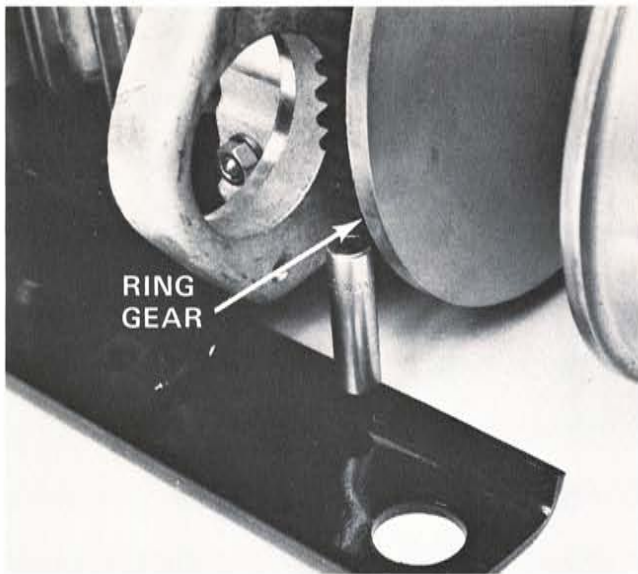

Fig 2
3. Remove T.C. bolt. To secure the crankshaft from turning, insert a socket between the ring gear and the engine mounting plate (Fig 2)